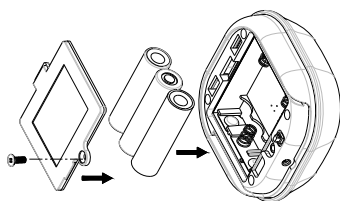

FIGURE 3
3. Insert 3 AA-size 1.5V alkaline batteries to the battery compartment, ensuring that correct polarity is put. (FIGURE 3)